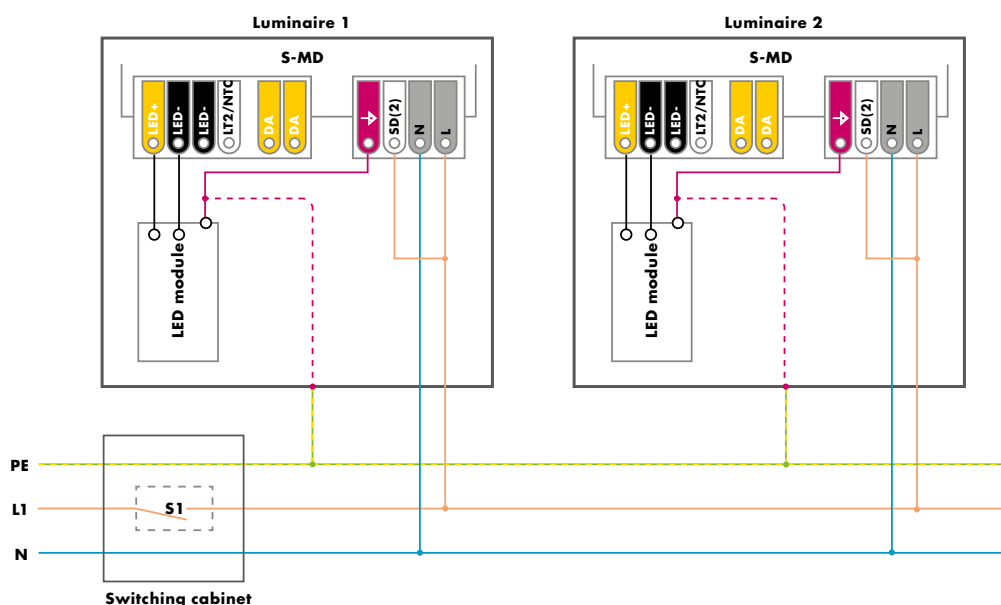

Figure 23: Line Switch/MidNight function/DALI wiring selection
For option 1, the MidNight function feature is activated without the need for programming. Only a permanent connection between the L and the SD(2) port of the LED driver is necessary (see figure 23). If the SD(2) port is not active during the start-up phase of the LED driver (for 1 s), the Line Switch feature is activated instead of the MidNight function feature. Information on the default dimming profile can be found in the datasheet of the applied LED driver.